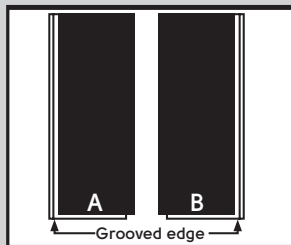

Fig. 3
3. Open several cartons/boxes of the material. The planks will be marked "A" and "B" on the back (diagram below). Separate the different planks in stacks keeping the edges the same direction (Fig 3). Shuffle the planks in each stack to achieve a more natural look, for installation.